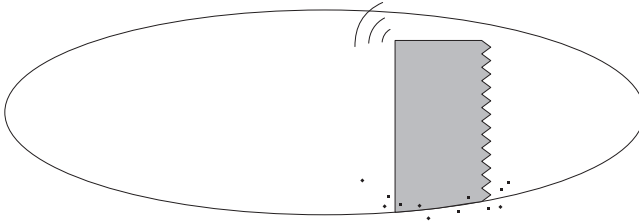

Figure 5: Cut Ceiling Hole
Step 1: Cut the Hole (Figure 5)